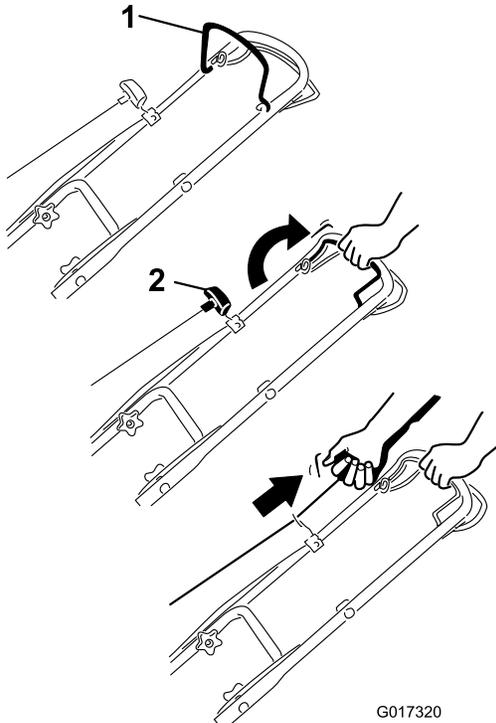

Figure 13
1. Hold the blade-control bar against the handle (Figure 13).
2. Pull the recoil-start handle lightly until you feel resistance, then pull it sharply. Allow the rope to return to the handle slowly (Figure 13).